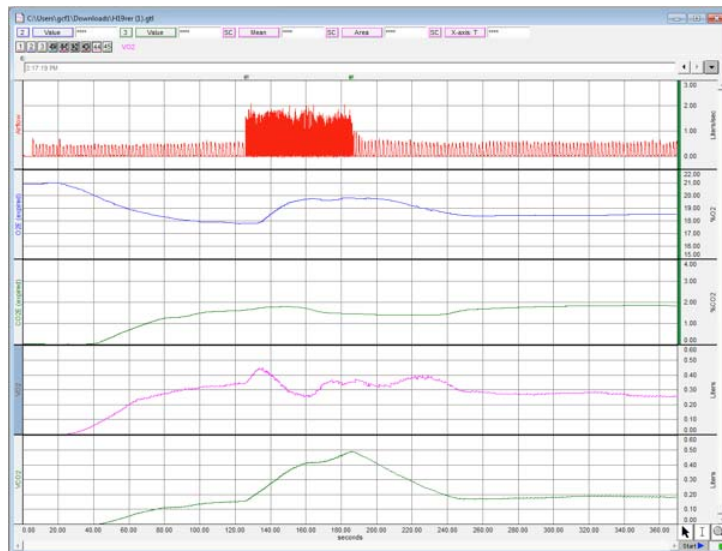

Figure 6: Expected data from Trial A
7. Make sure that the data looks similar to Fig. 6. If it does, the subject should eat lunch.
Warning: If your data does not look similar to Fig. 6, rerun the test. Once the subject eats, this test cannot be redone, so obtain good data before continuing!